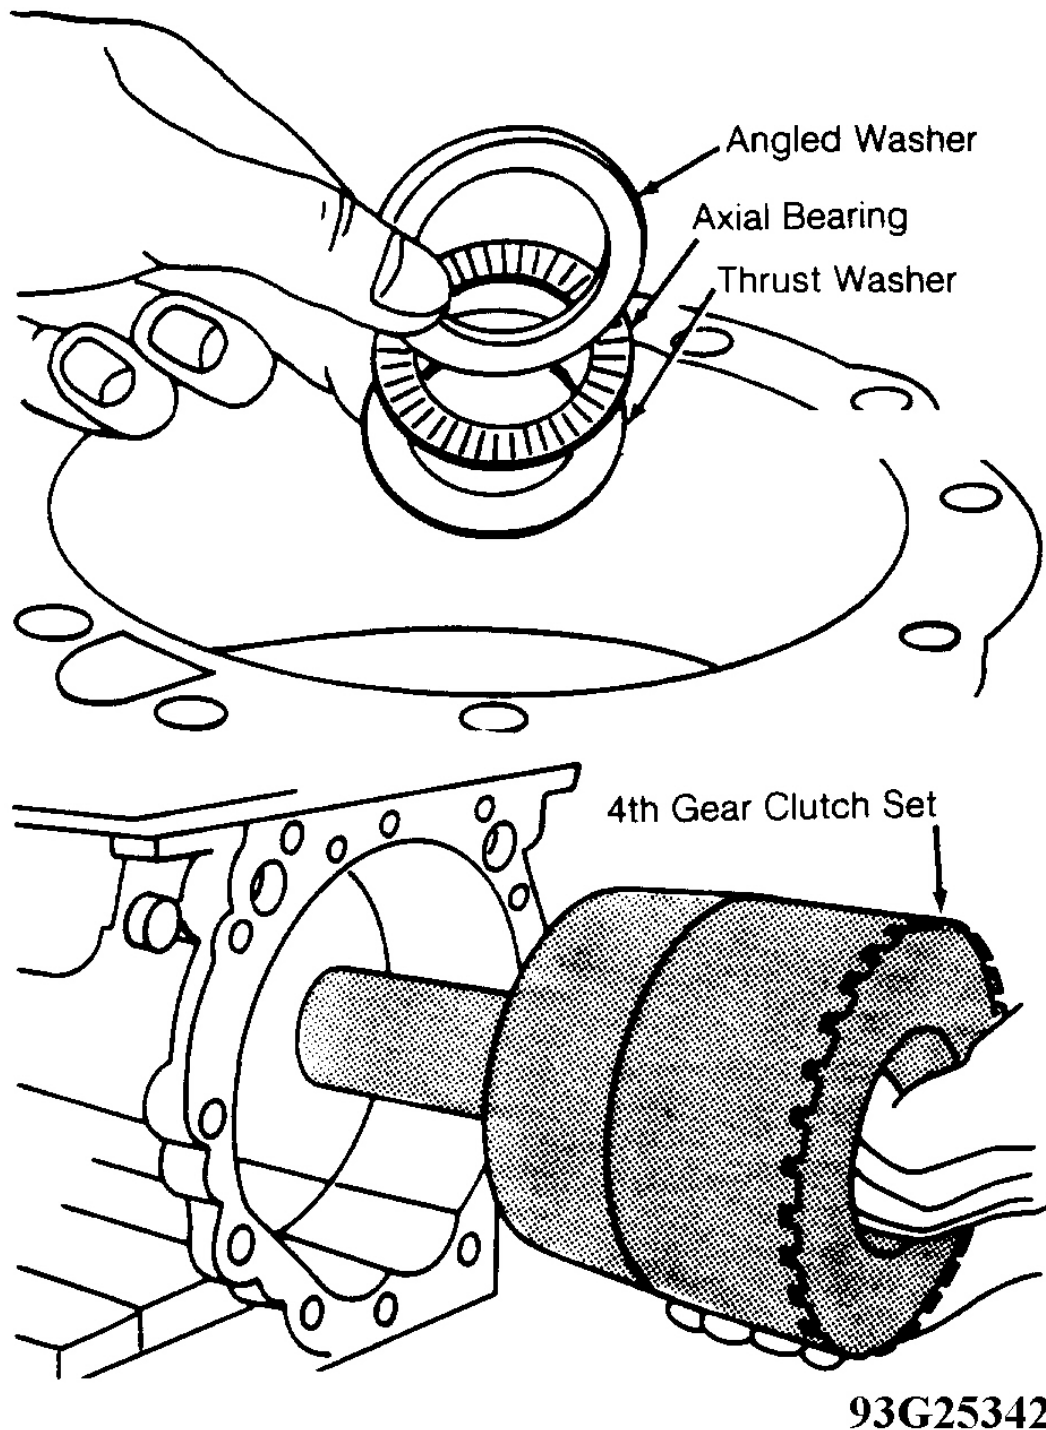

Fig. 8: Removing Angled Washer, Axial Bearing, Thrust Washer & 4th Gear Clutch Set
8. Remove angled washer, axial bearing, thrust washer and 4th gear clutch set as a complete unit. See **Fig. 8** .